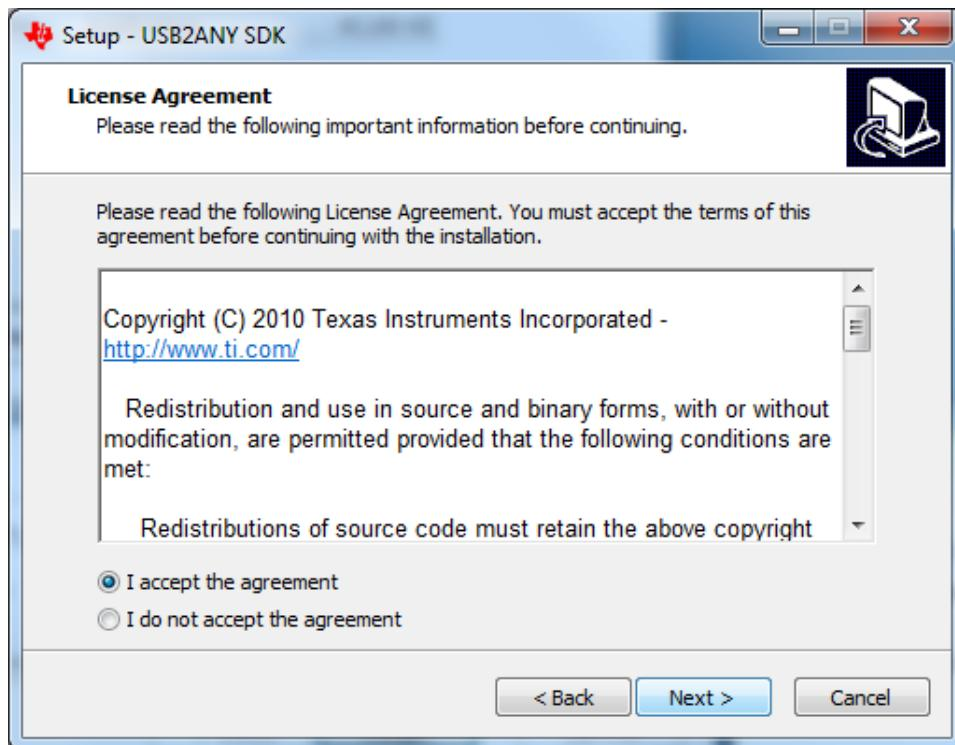

Figure 24. USB2ANY License Agreement
9. The license agreement is displayed next as shown in Figure 24. Read through the agreement carefully and select the *I accept the agreement* radio button and then click the *Next >* button to proceed.